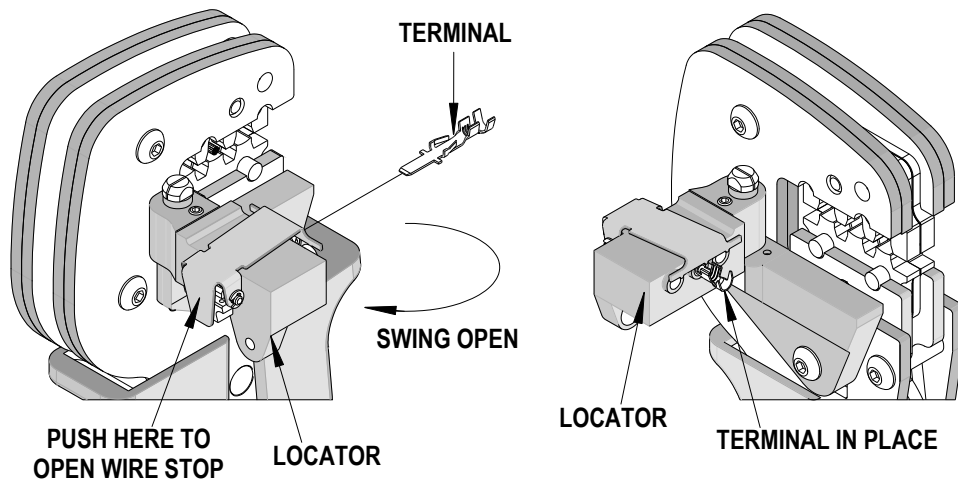
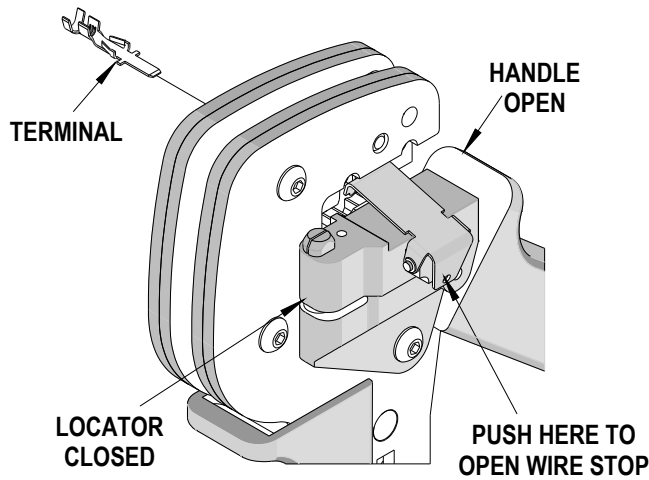

Figure 1
Figure 2
2. Swing the terminal locator away from the crimp tool shown in Figure 1. Some terminals with large insulation grips may interfere with the crimp tooling when swinging the locator into position. The terminal must then be loaded into the locator in the closed/crimp position. See Figure 2.
3. Press down on the wire stop on the locator as shown in Figure 2. Insert the proper terminal into the proper nest opening. Make sure when choosing the nest opening, it will correspond with the A, B or C profile on the hand tool.